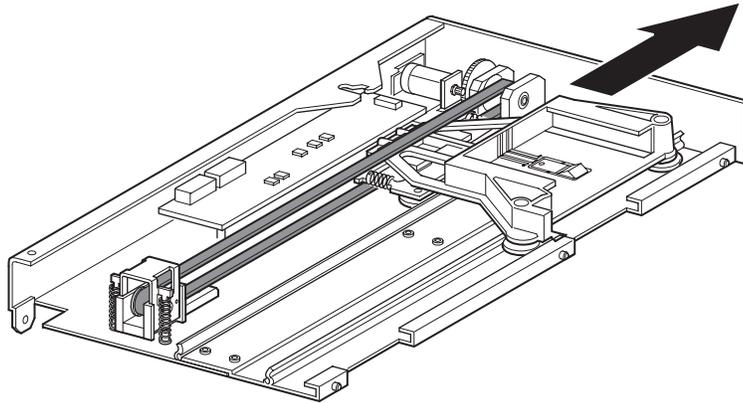

Figure 2–11: Media elevator car location
3. Turn the PTM over to access to the belt block bracket access cutout (see Figure 2–12).